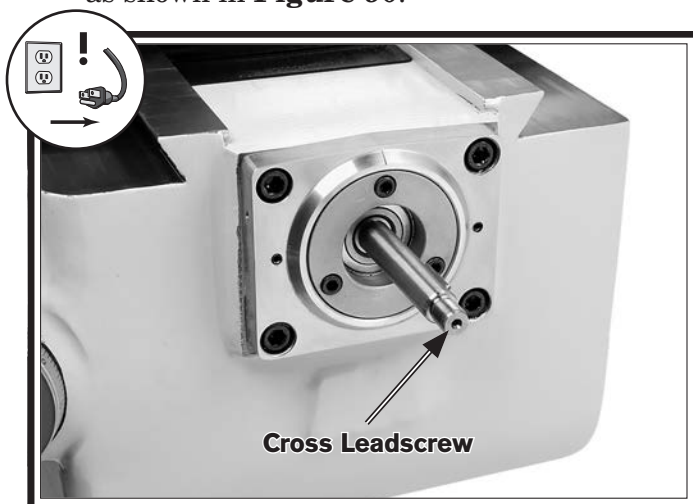

Figure 90. Example of ball handle, rings, and key removed from cross leadscrew.
3. Unthread and remove knurled retaining ring, graduated dial ring, and leadscrew key, as shown in **Figure 90**.